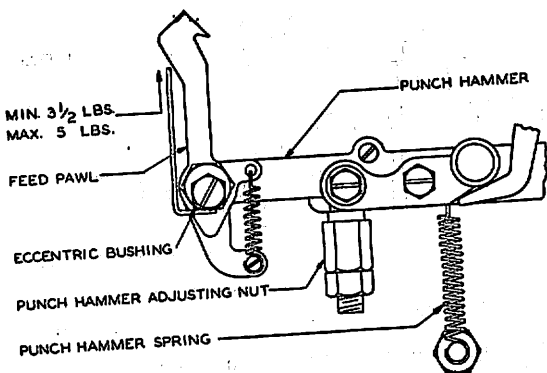

Fig. 9
3.27 **Punch-hammer spring** tension shall be Min. 3-1/2 lbs., Max. 5 lbs., measured at feed-pawl eccentric-bushing as the punch-hammer starts to move when the main-shaft clutch is disengaged and the lock-bail is held away from the transfer-levers. **Fig. 9**